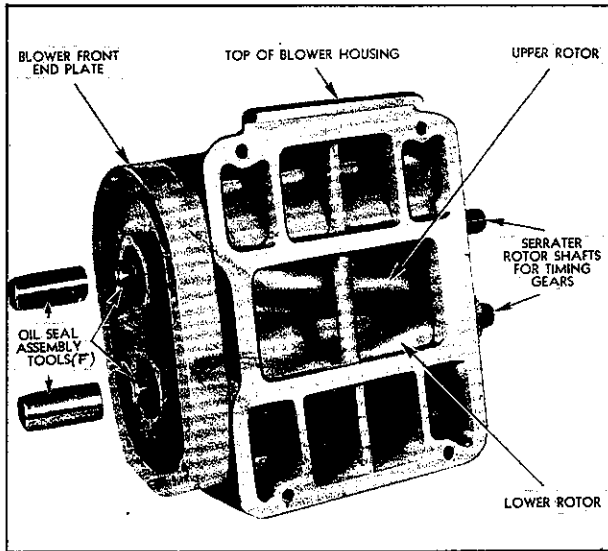

Fig. 13—Assembling Blower Rotors into Housing—Front End Plate Attached.
4. **Assemble Rotors into Housing**—With checks in mind, as outlined in item (3) above:
(a) Install one oil seal pilot (F) over short end (non-splined) of each rotor shaft and with rotors in mesh and omitted serrations toward top of blower housing, slip rotors into housing. (See Fig. 13.)